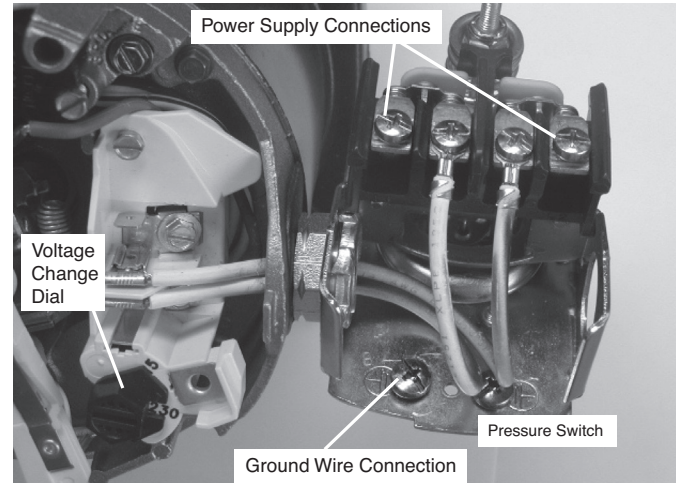

Figure 9: Voltage set to 230 volts, Dial Type
4. Attach the incoming power leads to the two outer screws on the pressure switch as shown in Figure 9.
3. Attach the incoming power leads to the two outer screws on the pressure switch as shown in Figure 9.
4. Attach the ground wire to the grounding connections as shown in Figure 9.